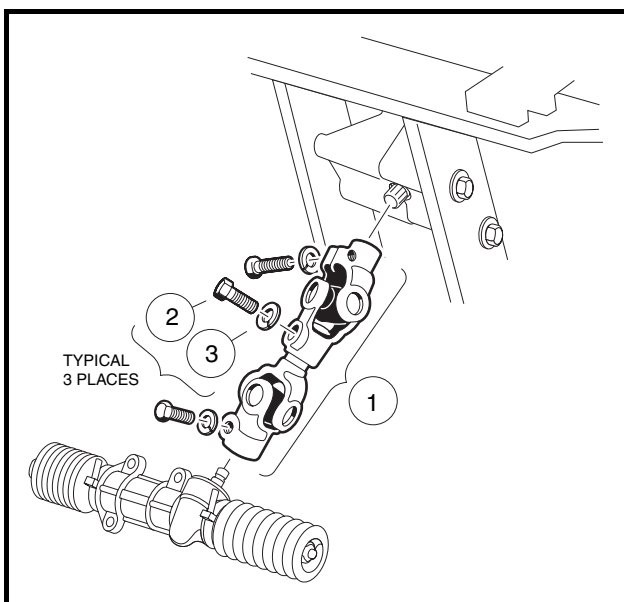

Figure 14-9 Compound Steering Joint
3. Remove the steering joint assembly (**Figure 14-9, Page 14-13**).